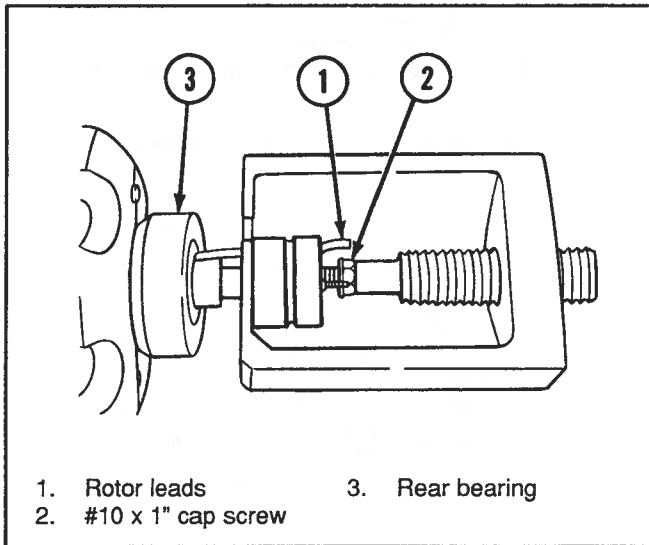

Figure 6-75. Removing Slip Rings
- a. Unsolder the rotor leads (1) from the slip-ring terminals (Figure 6-75).
- c. Install a #10 x 1 in. cap screw (2) into the opening in the center of the slip ring.
11. Use the same puller to remove the rear bearing (3) from the rotor shaft.